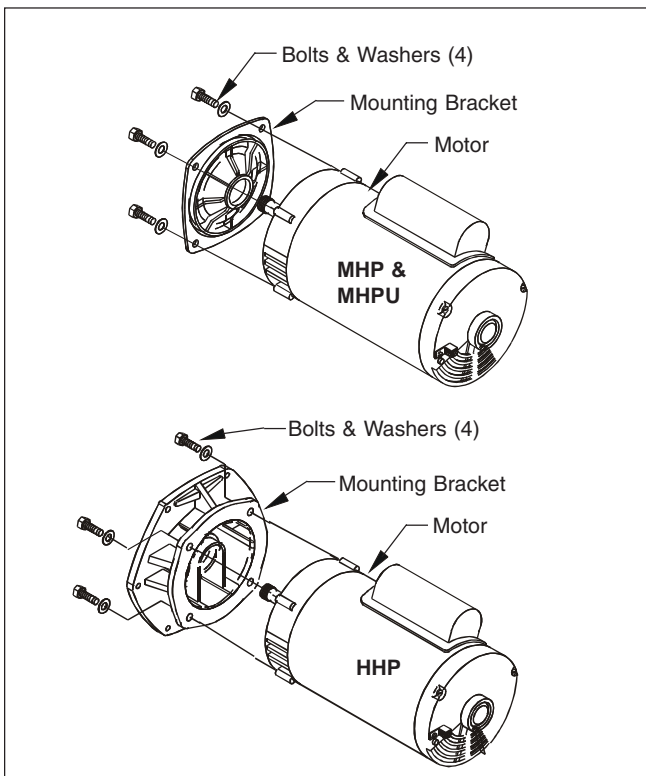

Figure 4. Mounting Bracket Assembly
- Remove the four (4) bolts holding the mounting bracket to the motor. Before removing the bracket, note the alignment of the mounting bracket to the motor (See Fig. 4).
- Replace the mounting bracket on the motor by first, aligning the bracket with the seal splash guard open to the ground, and the mounting bracket part number at the top. Install and tighten (max. 15 ft-lbs) the four (4) bolts (See Fig. 4).